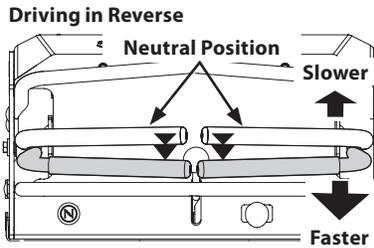

Figure 13
1. Slowly and evenly move both drive control levers rearward. The mower will start to move in the reverse direction (Figure 13).